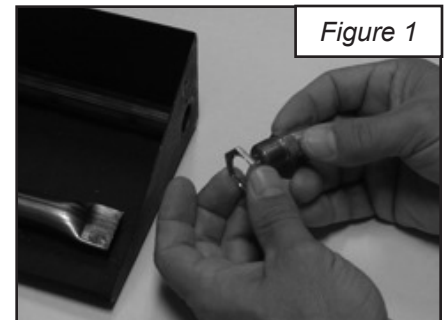

Figure 1
- B. Attach the 3/8" Natural Gas Orifice (Part #20a or #20b) through the Burner Pan to the Burner Bar using the 3/8" Locknut supplied only with Dual and Topside Burner log sets. When installing a single burner log set, a 3/8" locknut is not used. Be sure the small drill hole on the 3/8" Natural Gas Orifice is facing the gas control valve and the large hole is facing the burner pan. (See Figure 1 & 2)